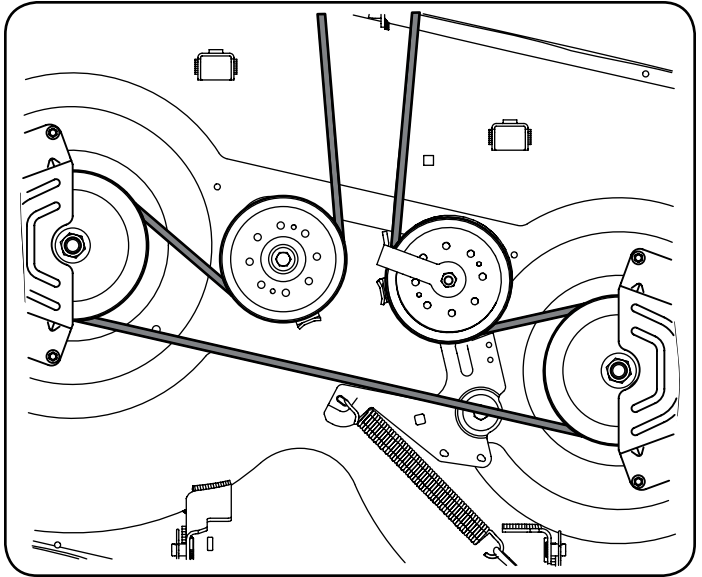
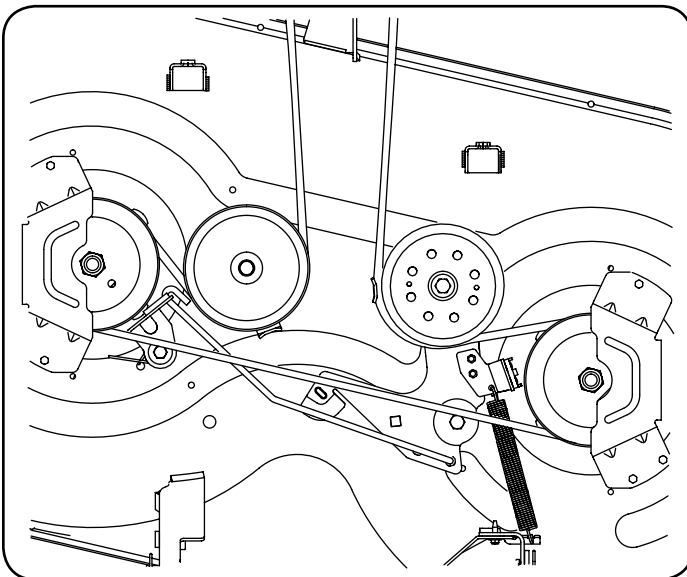
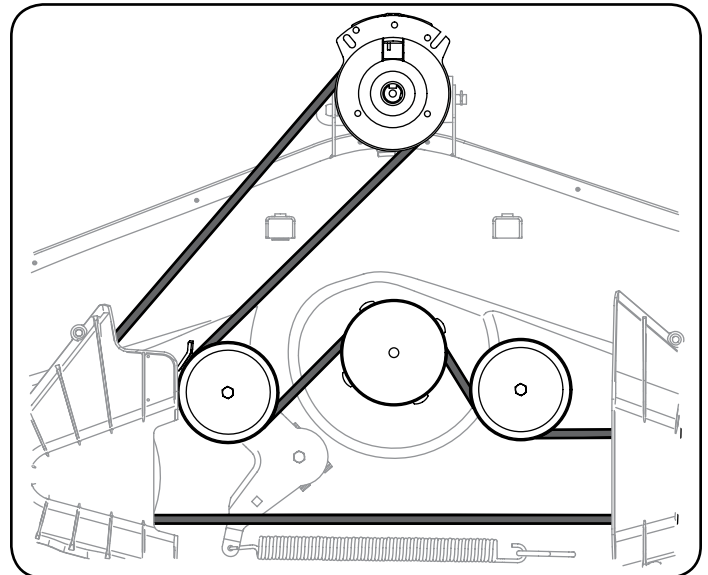

Figure 38
Figure 37
Figure 39
- Route the new belt as shown in Figure 37 for 42" Decks, Figure 38 for 46" Decks and Figure 39 for 50" and 54" Decks.